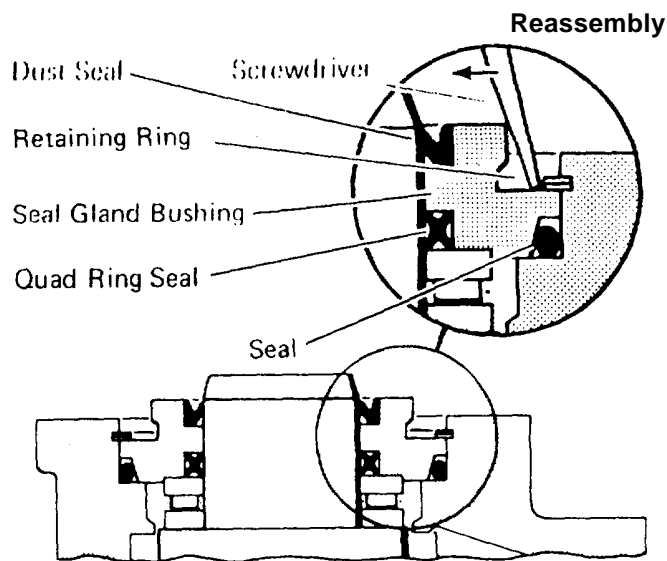

Figure 19
14. Install 1-1/4" diameter dust seal in seal gland bushing, flat or smooth side of dust seal must face down towards bushing, see Fig. 19.
15. Install dry quad ring seal in seal gland bushing. Smooth seal in place with your finger. Do not use any seal that falls freely into pocket of bushing, see Fig. 19.